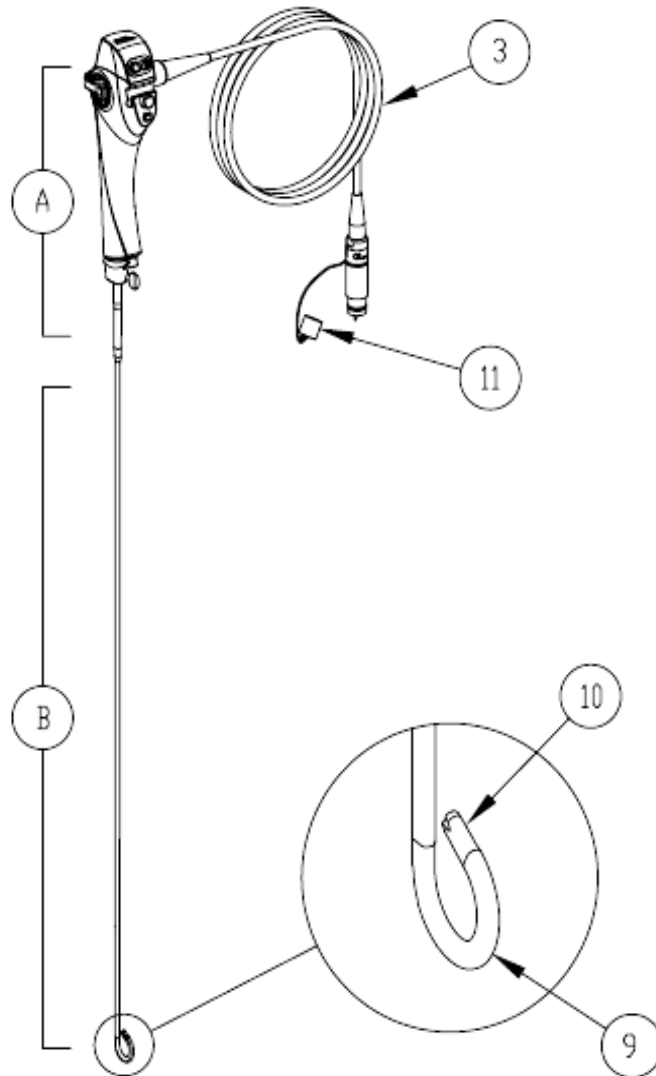
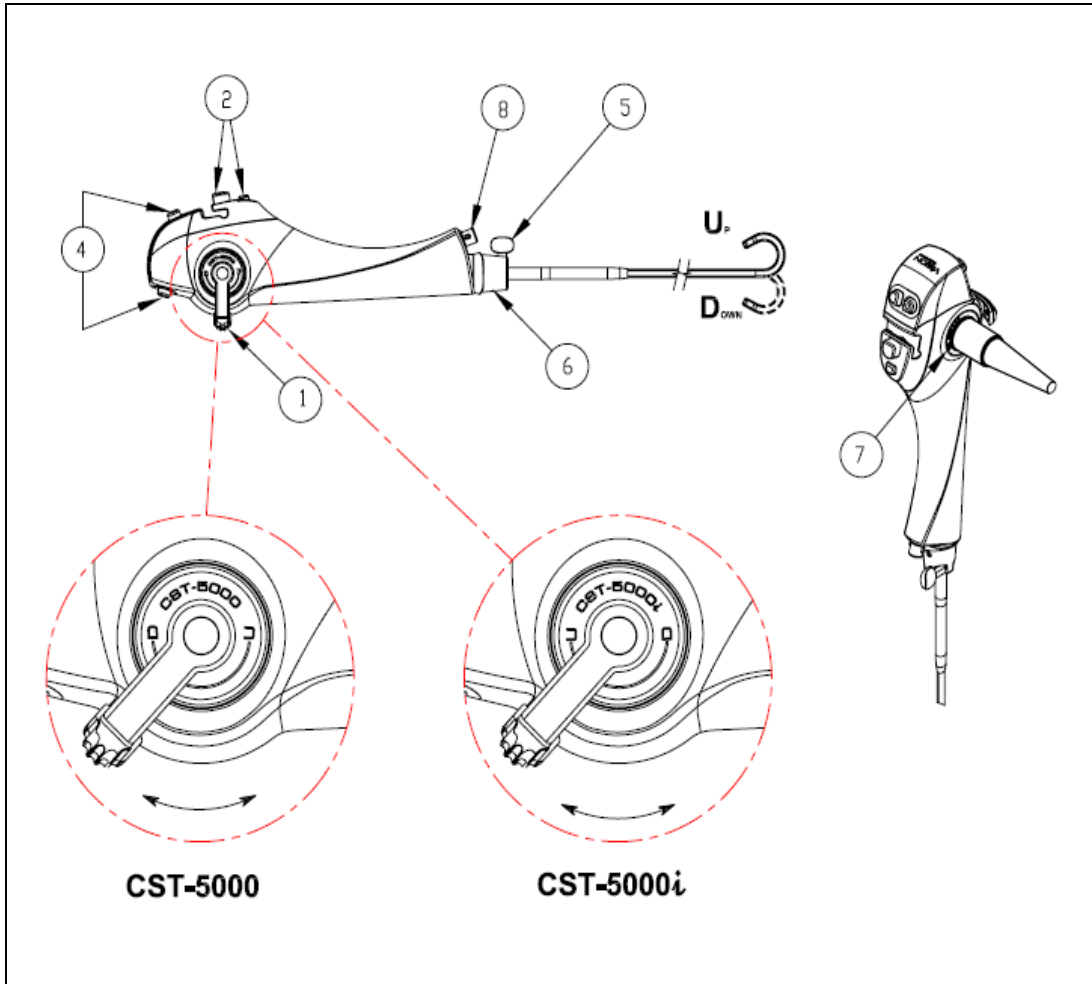

Figure 3-1: CST-5000/5000i Flexible Video Cystoscope/Hysteroscope
Figure 3-2: CST-5000/5000i Flexible Video Cystoscope/Hysteroscope – Control Body
- The **CST-5000/5000i** Flexible Video Cystoscope/Hysteroscope, which is shown in Figure 3-1 and Figure 3-2 on pages 13 and 14. The endoscope's Insertion Tube has no working channel; it contains the video camera module and illumination bundles.